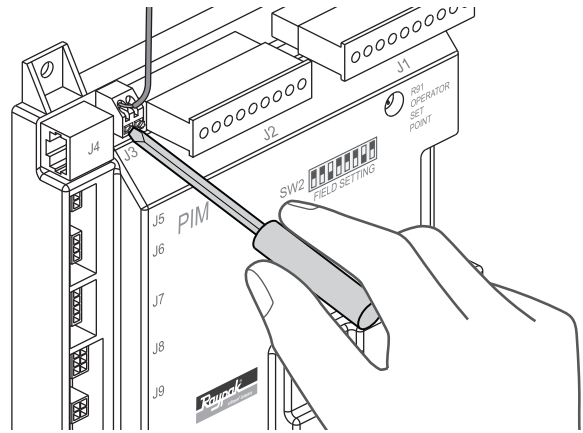

Figure 43. Cascade Wire Connection
3. Connect the cascade wires to the PIM-J3 terminals by pressing down on the slots with a small screwdriver and then inserting the wires into the holes. See **Figure 43**. Fault will occur if wires are reversed.